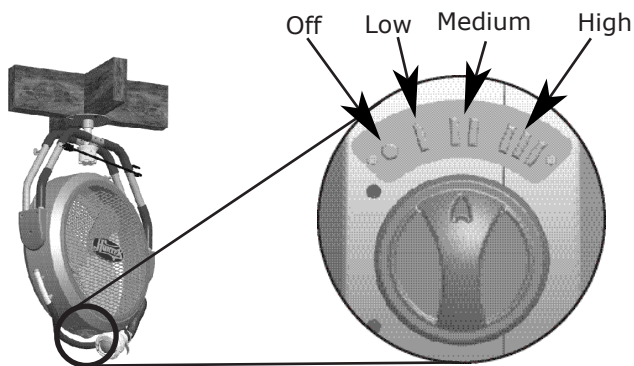

Figure 4
7. Use the Speed Control Knob to select your fan's speed. See Figure 4.
6. Use the Speed Control Switch to select your fan's speed. See Figure 4.